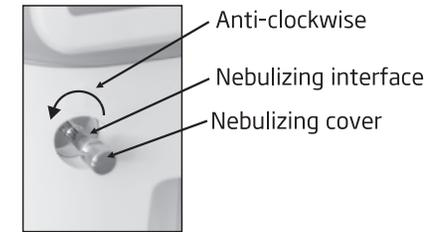

Figure 6
- Upward pull out the nebulizing cover on the nebulizing interface. (Figure 6)